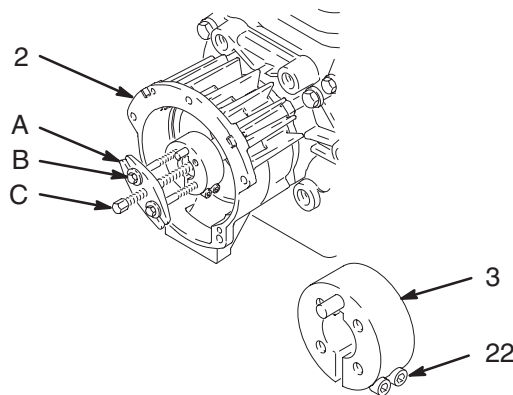

Fig. 18
**NOTE:** Refer to Fig. 18.
1. Loosen the two screws (22) on the clamp (3), working through the slot at the bottom of the clutch housing (2).
2. Install two screws (B) of the tool (A) in two of the threaded holes in the clamp (3). Tighten the screw (C) until the clamp comes off.